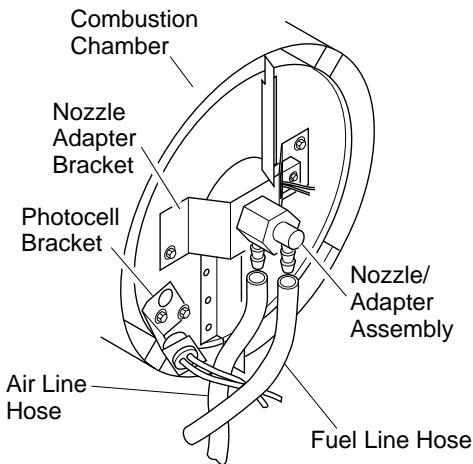
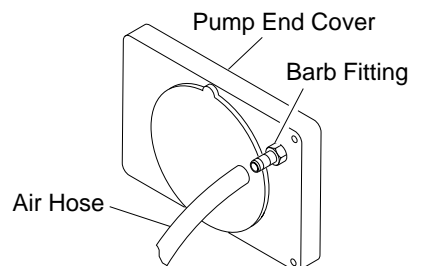

Figure 17 - Removing Air and Fuel Line Hoses (B35CEL and B70CEL Models Only)
Figure 22 - Air Hose to Barb Fitting
14. Replace photocell in photocell bracket. Route wires as shown in either Figure 17, 18, or 19, page 11.
3. Remove fuel and air line hoses from nozzle assembly (see Figure 17, 18 or 19).
4. Inspect fuel and air line hoses for cracks and/or holes. If fuel line hose is damaged, disconnect from nozzle adapter (see Figure 17, 18, or 19) and from fuel filter (see page 8). If air line hose is damaged, disconnect from nozzle adapter (see Figure 17, 18, or 19) and from barb fitting on pump end cover (see Figure 22).
5. Install new air and/or fuel line. Attach one end of air line hose to barb fitting on pump end cover (see Figure 22) and the other end to nozzle adapter (see Figure 17, 18, or 19). Attach one end of fuel line hose to fuel filter (see page 8) and the other end to nozzle adapter (see Figure 17, 18, or 19).
For B35CEL and B70CEL model heaters, route air and fuel lines approximately as shown in Figure 17.